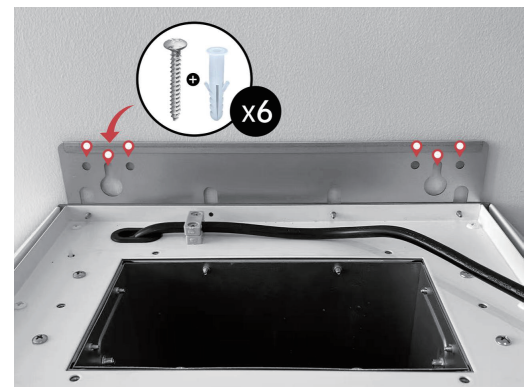

Figure 3
- Confirm the hood is firmly mounted and stable. Figure 3